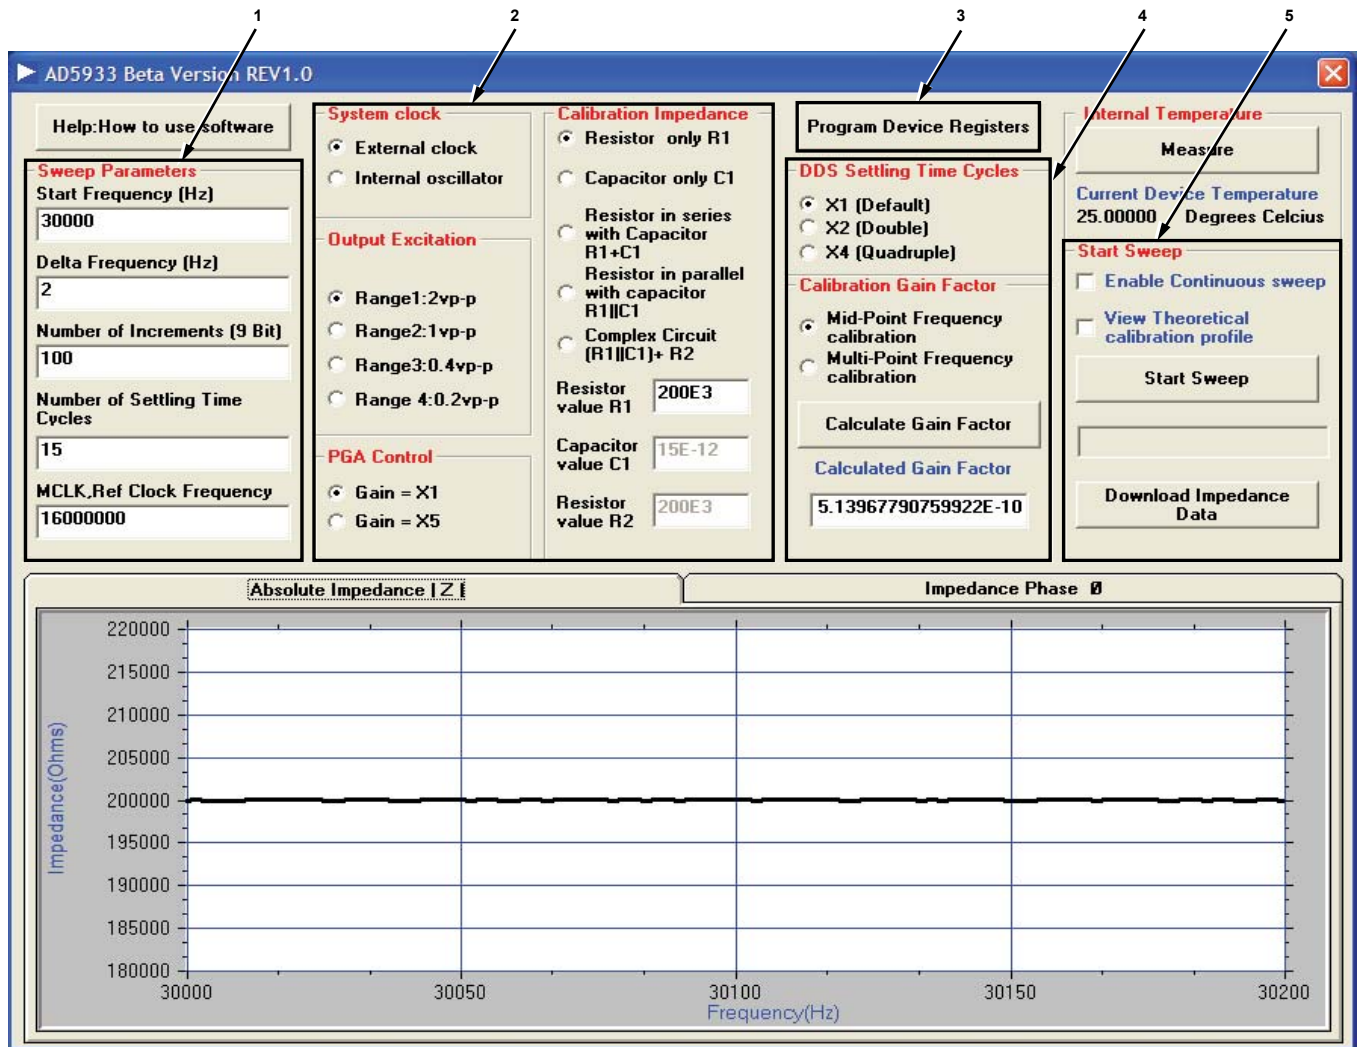
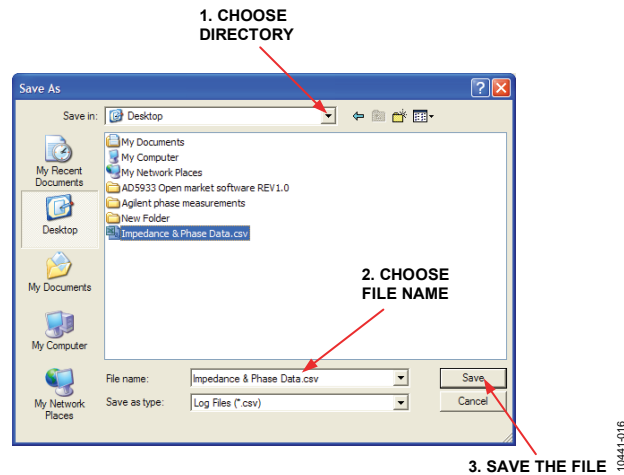

Figure 12. AD5933 Evaluation Software Front Panel (Impedance Profile of 200 kΩ Resistor Displayed)
Figure 15. Saving the Sweep Data
The sequence for performing a linear frequency sweep across a 200 k Ω resistive impedance connected across the VOUT and VIN pins within the frequency range of 30 kHz to 30.2 kHz is outlined in this section. The default software settings for the evaluation board are shown in Figure 12. (Note that a 200 k Ω resistor must be connected across the VIN and VOUT pins of the AD5933). The default link positions are outlined in Table 1, see this before continuing.
Figure 12 shows the graphic user interface program open and running successfully. It also shows the interface panel along with a frequency sweep impedance profile for a 200 k Ω resistive impedance (note $R_{FB} = 200\text{ k}\Omega$).
- Set **Start Frequency (Hz)** to 30000 (Hz) within the **Sweep Parameters** section (see 1 in Figure 12). The start frequency is 24-bit accurate.
- Set **Delta Frequency (Hz)** to 2 (Hz) within the **Sweep Parameters** section (see 1 in Figure 12). The frequency step size is also 24-bit accurate.
- Set **Number Increments (9 Bit)** within the **Sweep Parameters** section to 200 (see 1 in Figure 12) to set the number of increments along the sweep to 200. The maximum number of increments that the device can sweep across is 511, and the value is stored in a register as a 9-bit value.
- Set **Number of Settling Time Cycles** to 15 (see 1 in Figure 12).
- Choose the external clock as the system clock. Select **External clock** in the **System Clock** section (see 2 in Figure 12).
- Set **Output Excitation** voltage range of the **AD5933** at Pin 6 (VOUT) to **Range1:2v p-p** (see 2 in Figure 12). The four possible output ranges available are 2 V p-p, 1 V p-p, 0.4 V p-p, or 0.2 V p-p, typically.
- Set the PGA gain of the ADC on the receive stage (either $\times 1$ or $\times 5$) in the **PGA Control** section to $\times 1$ (see 2 in Figure 12).
- Refer to the **Calibration Impedance** panel (see 2 in Figure 12). Prior to making any measurements, calibrate the **AD5933** with a known (that is, accurately measured) calibration impedance connected between the VIN and VOUT pins of the **AD5933**. The choice of calibration impedance topology (for example, R1 in series with C1, R1 in parallel with C1) depends on the application in question. However, ensure that each component of the measured calibration impedance is entered correctly into each chosen topology component text box (see 2 in Figure 12). For this example, **Resistor only R1** was chosen in the **Calibration Impedance** section, that is, to measure the impedance of a 200 kΩ resistive impedance across frequency. Also for this example, set **Resistor value R1** to 200E3 (Ω).
- Click **Program Device Registers** (see 3 in Figure 12) to program the sweep parameters as previously chosen into the appropriate on-board registers of the **AD5933** through the I²C interface.
- To automatically calculate the gain factor(s) for the subsequent sweep, click **Calculate Gain Factor**. The evaluation software evaluates either a single midpoint frequency gain factor or multipoint frequency gain factors, that is, a gain factor for each point in the programmed sweep (see 4 in Figure 12). The midpoint gain factor is determined at the midpoint of the programmed sweep, and the multipoint gain factors are determined at each point in the programmed frequency sweep.
- Click **Start Sweep** (see 5 in Figure 12) to begin the sweep. Once the evaluation software completes the sweep, it automatically returns both a plot of the impedance vs. frequency and phase vs. frequency for the impedance under test (see Figure 12). The progress of the sweep is outlined with a progress bar, as shown in Figure 14.
- Click **Download Impedance Data** to download the frequency sweep data (that is, frequency, impedance phase, real, imaginary, and magnitude data) from the DFT of the sweep (see 5 in Figure 12). The common dialog front panel is presented as shown in Figure 15. Choose a file name in a directory of choice and click **Save** (see Figure 15). This saves the sweep data to a comma separated variable file (.CSV) located in the chosen directory.